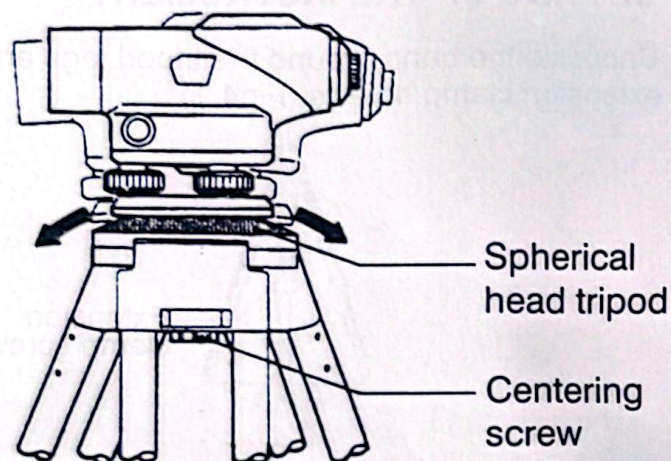

Fig.4.3
- 5) Hold the instrument on the tripod head and tighten the centering screw. (Fig.4.3)